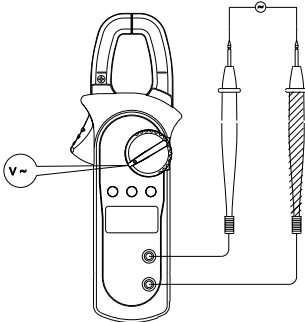

Figure 4
2. AC voltage measurement (V_{AC}) (shown in Figure 4)